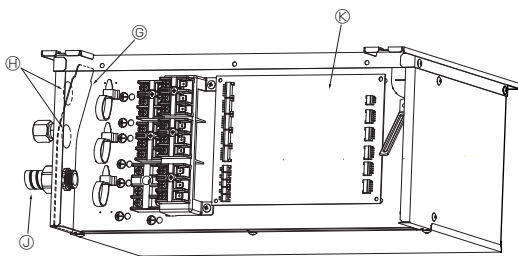

Fig. 9-6
- When cutting out the knockout holes on the conduit plate, beware that neither deformation nor distortion occurs on the plate. Also, when installing the conduit plate, beware that no gap exists between the plate and the conduit pipes or the conduit holes, otherwise it may cause failure of the BC controller due to the invasion of small creatures or insects. (Fig. 9-6)